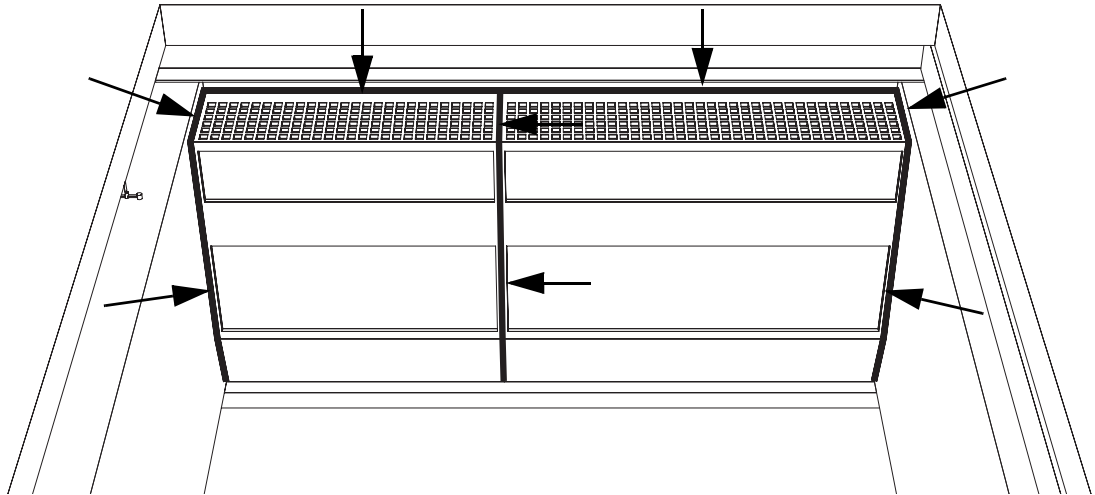

Figure 3-7 Gaps that must be sealed (seen from the cold store side)
- Seal the gaps between the air curtain unit(s) and the corridor with silicon paste, according to Figure 3-7.